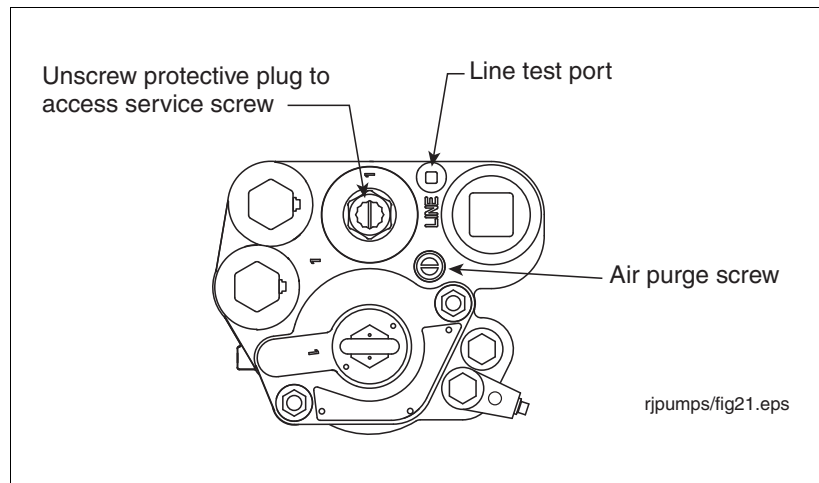

Figure 43. Service Screw, Line Test Port, And Air Purge Screw Locations
3. Remove line test port plug (see Figure 43). Apply line test pressure at line test port (50 psi [345 kPa] maximum).
6. Turn the air purge screw 2 - 3 turns counterclockwise (see Figure 43).
1. Remove and retain the protective plug over service screw and turn the screw clockwise (see Figure 43). As the screw approaches its bottom position, you will hear the system depressurizing. Continue turning the screw until it can go no further.
5. Turn the air purge screw 2 - 3 turns counterclockwise (see Figure 43).